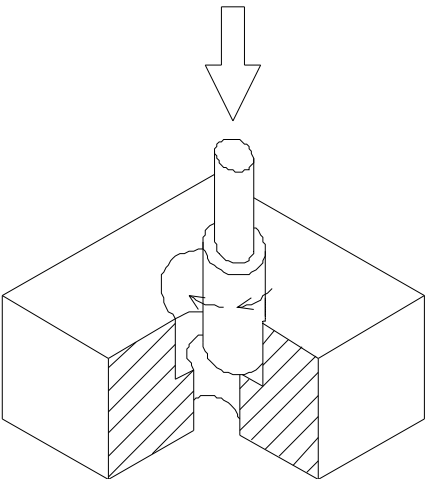

FIG. 4-2
- 2. SPARKING FOR GRINDING (FIG. 4-2)